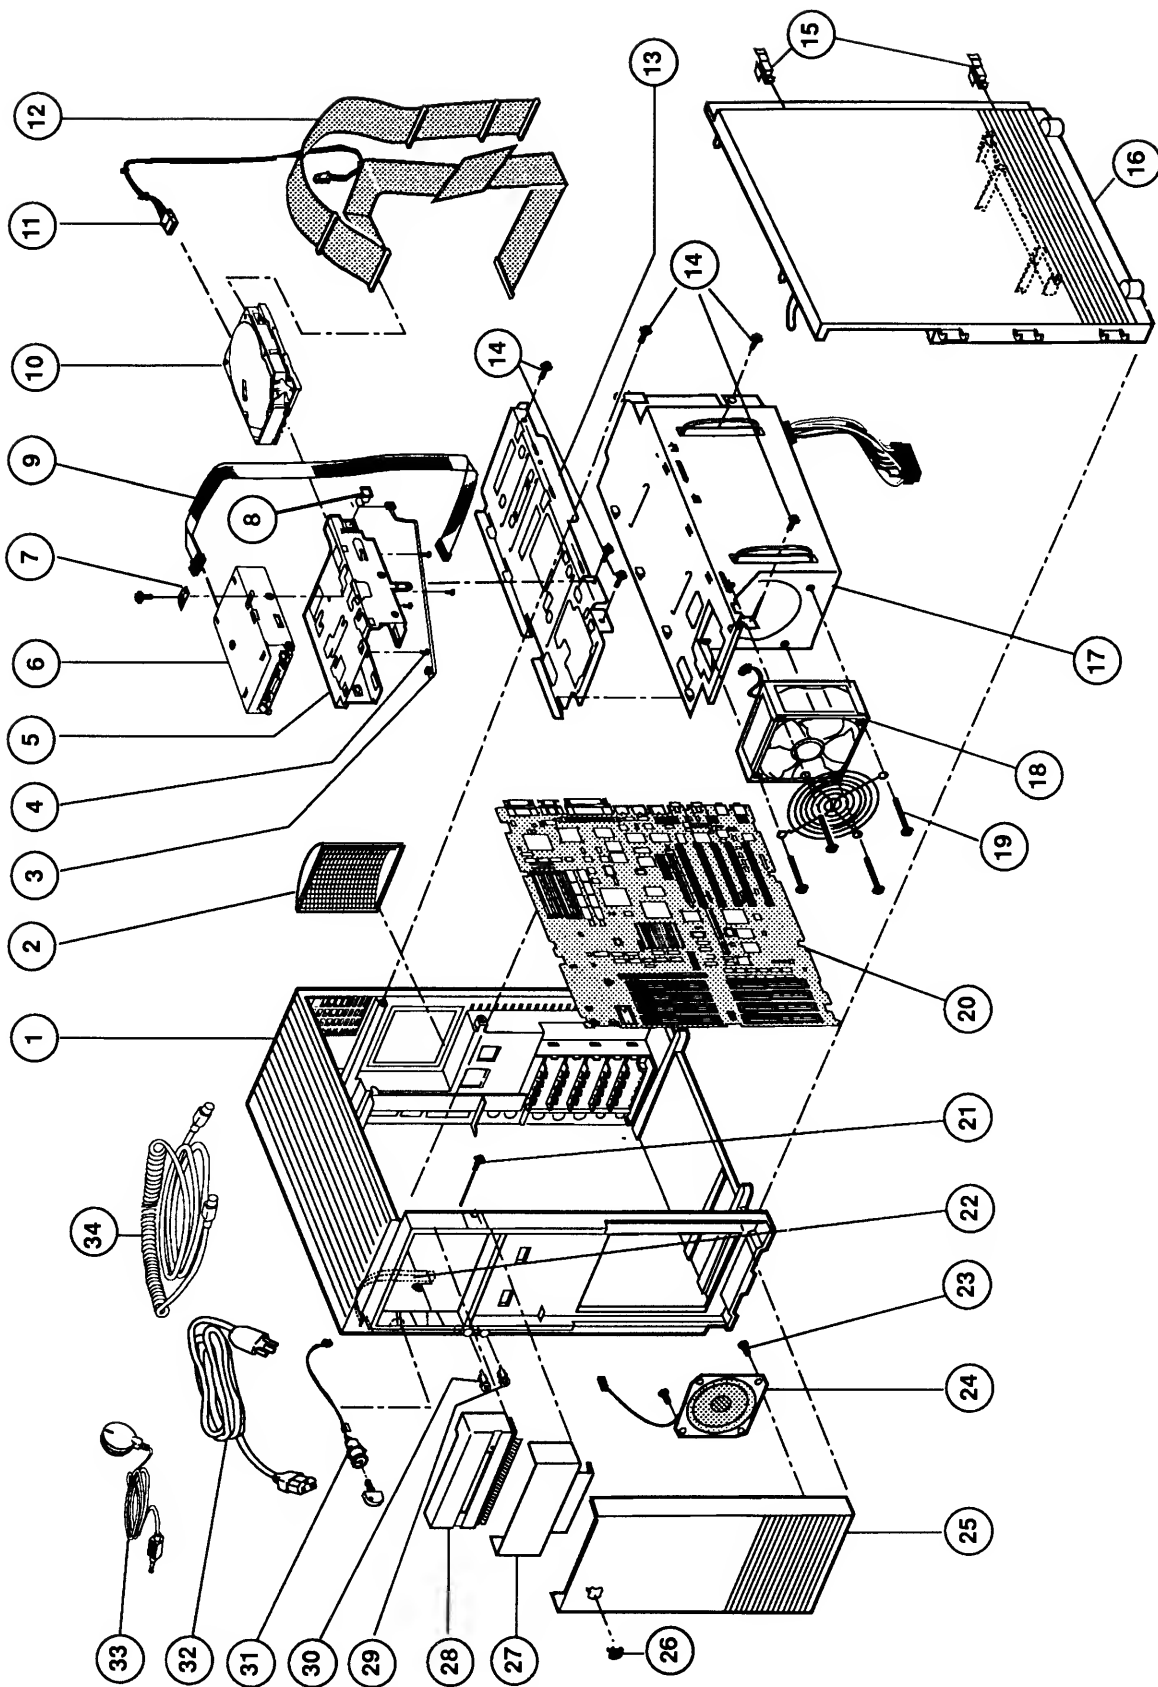

Figure 1 System Exploded View
IPL.3	System Exploded View (Figure 1)
□ SYSTEM EXPLODED VIEW (Figure 1)